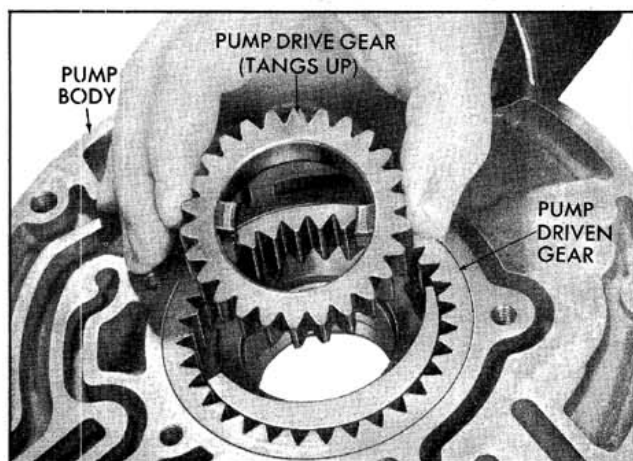

Fig. 6-109 Removing Drive Gear
14. Mark drive and driven gears for reassembly and remove drive gear. (Fig. 6-109)